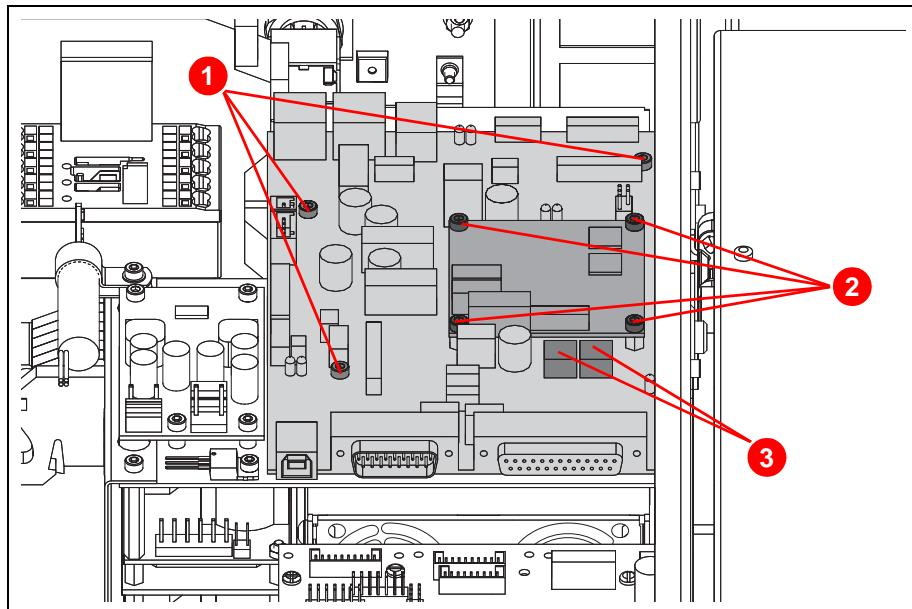

Figure 3.59 LSC
2. Unscrew the fastening screws (1) (Figure 3.59) of the LSC.
6. Unscrew the fastening screws of the SSC module (2).